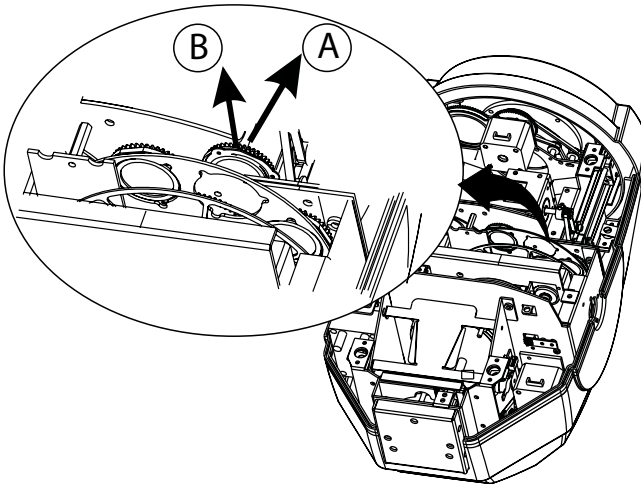

Fig.9
- Turn the gobo wheel as indicated in fig. 9 in such a way that the gobo to be replaced is on top.
- Make sure the gobo plate is installed under the pressure plate (C).